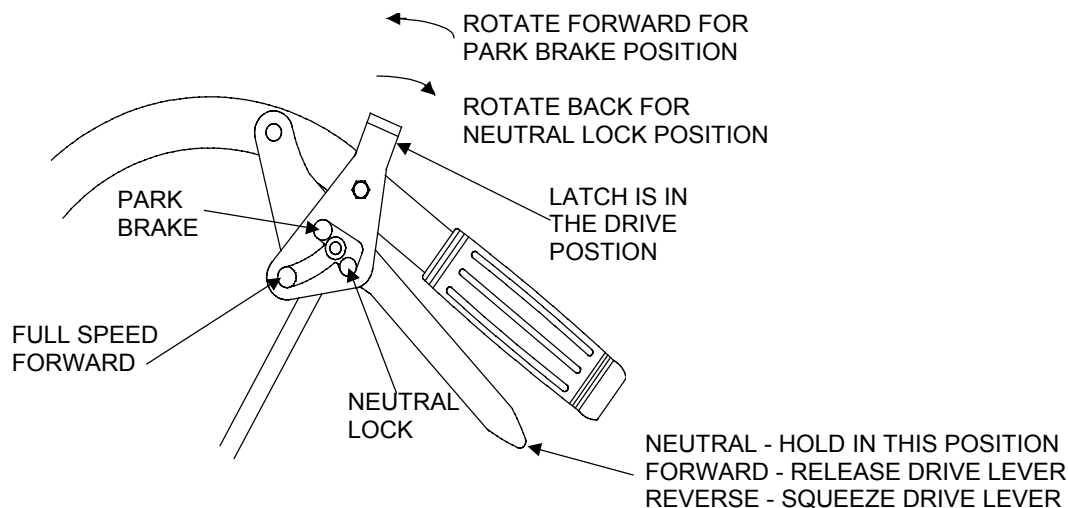
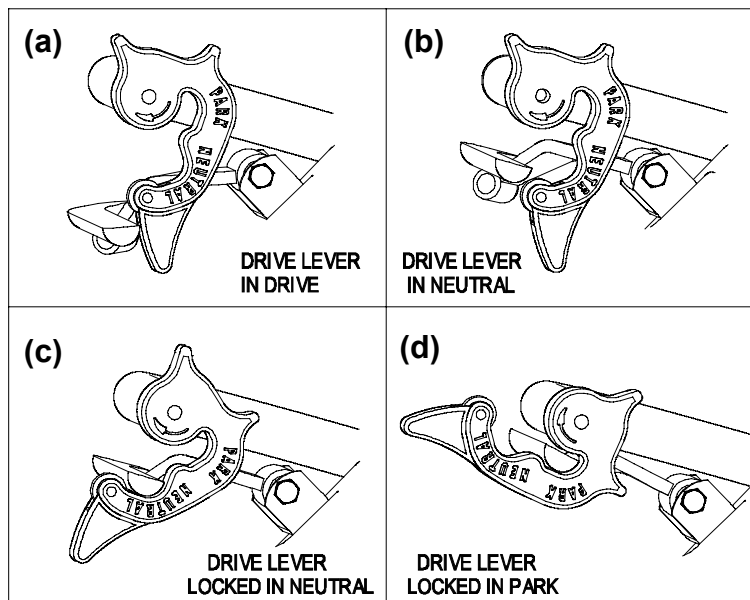

FIGURE 16
FIGURE 17
- 3.14 Adjust brakes by adjusting wingnut on the upper end of each brake rod. Tighten the wingnut until the brakes engage when the drive levers are squeezed enough to allow the neutral lock/park brake latches to be placed into the "park brake" position. See Figure 16 for Standard Pistol Grip handles and Figure 17 for ECS handles. Check for correct adjustment:
For Standard Pistol Grip Handles: To lock the drive levers in “neutral”, squeeze the drive levers back to the neutral position. Place thumbs on the upper portion of the neutral lock/park brake latches and move them to the rear. Release the drive levers (See Figure 16).
To lock the levers in “park brake”, squeeze the drive levers back to the brake position. Place thumbs on the upper portion of the neutral lock/park brake latches and move them to the front. Release the drive levers (See Figure 16).
For ECS Handles: To lock the drive levers in “**neutral lock**”, squeeze the drive levers to the “neutral” position. See Figure 17 (b). Place thumbs on the inner thumb lobe of the neutral lock /park brake latches and rotate them to the “neutral” position. See Figure 17 (c). Release the drive levers.
To lock the drive levers in “**park brake**”, squeeze the drive levers farther to the “brake” position. Place thumbs on the inner thumb lobe of the neutral lock/park brake latches and rotate them to the “park” position. See Figure 17 (d). Release drive levers.
To place the drive levers in the “**drive**” position, slightly squeeze the drive levers while placing thumbs on the outer thumb lobe of the neutral lock/park brake latches (or the index finger on the front lobe) and rotate them from under the drive levers. **Slowly** and **carefully** release the drive levers. See Figure 17 (a).